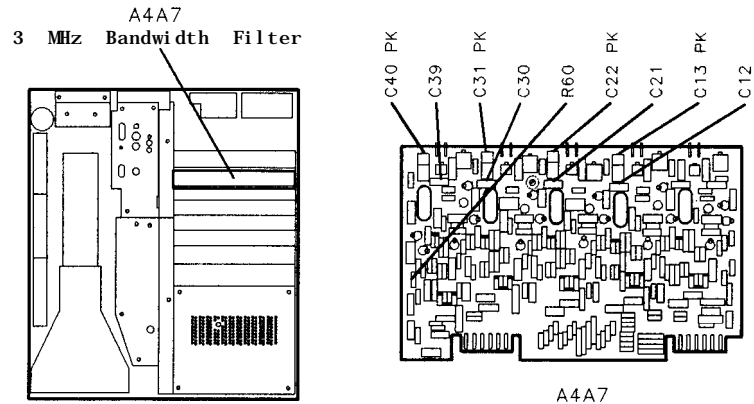

Figure 3-39. Location of 3 MHz Peak Adjustments
25. Adjust A4A7C13 PK for maximum peak-to-peak signal on channel 4 display. See Figure 3-39 for location of adjustment. If unable to achieve 1 “peak” in signal amplitude, increase or decrease value of A4A7C12. Refer to Table 3-3 for range of values.
28. Adjust A4A7C22 PK for maximum peak-to-peak signal on channel 4 display. See Figure 3-39 for location of adjustment. If unable to achieve a “peak” in signal amplitude, increase or decrease value of A4A7C21. Refer to Table 3-3 for range of values.
31. Adjust A4A7C31 PK for maximum peak-to-peak signal on the oscilloscope channel 4 display. See Figure 3-39 for location of adjustment. If unable to achieve a “peak” in signal amplitude, increase or decrease value of A4A7C30. Refer to Table 3-3 for range of values.
35. Adjust A4A7C40 PK for maximum signal amplitude on the spectrum analyzer CRT display. See Figure 3-39 for the location of adjustment. If unable to achieve a “peak” in signal amplitude, increase or decrease value of A4A7C39. Refer to Table 3-3 for range of values.